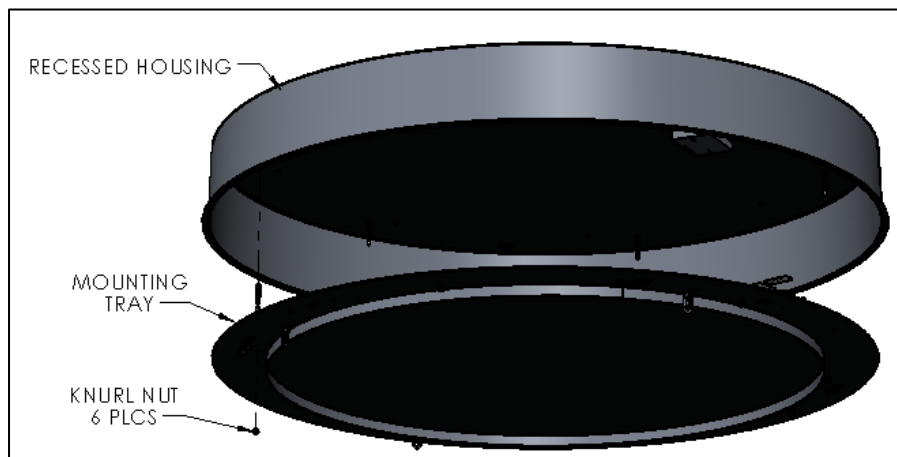

FIG. 8 – DISASSEMBLY OF MOUNTING TRAY FROM HOUSING
2. Unscrew KNURL NUTS securing MOUNTING TRAY to RECESSED HOUSING. Carefully remove MOUNTING TRAY from RECESSED HOUSING shown in FIG.8 and set aside. Be careful not to damage finish.